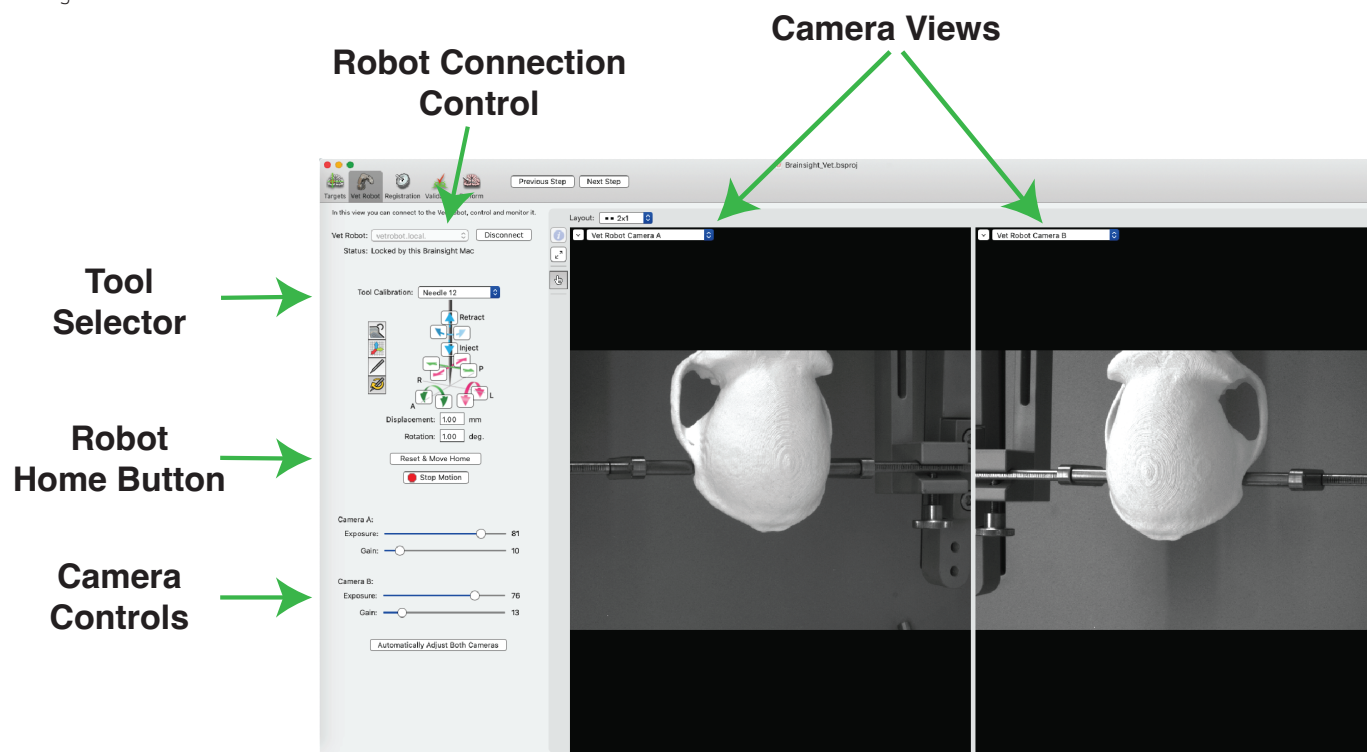

Fig. 13-3
1. If the robot is on and correctly connected to the Brainsight computer, you should see it in the robot connection control popup button (see Fig. 13-3). Select it and click **Connect**. After a moment, you should see the connection status change to "connected". Once this occurs, you should see live images of the stereo cameras appear in the two